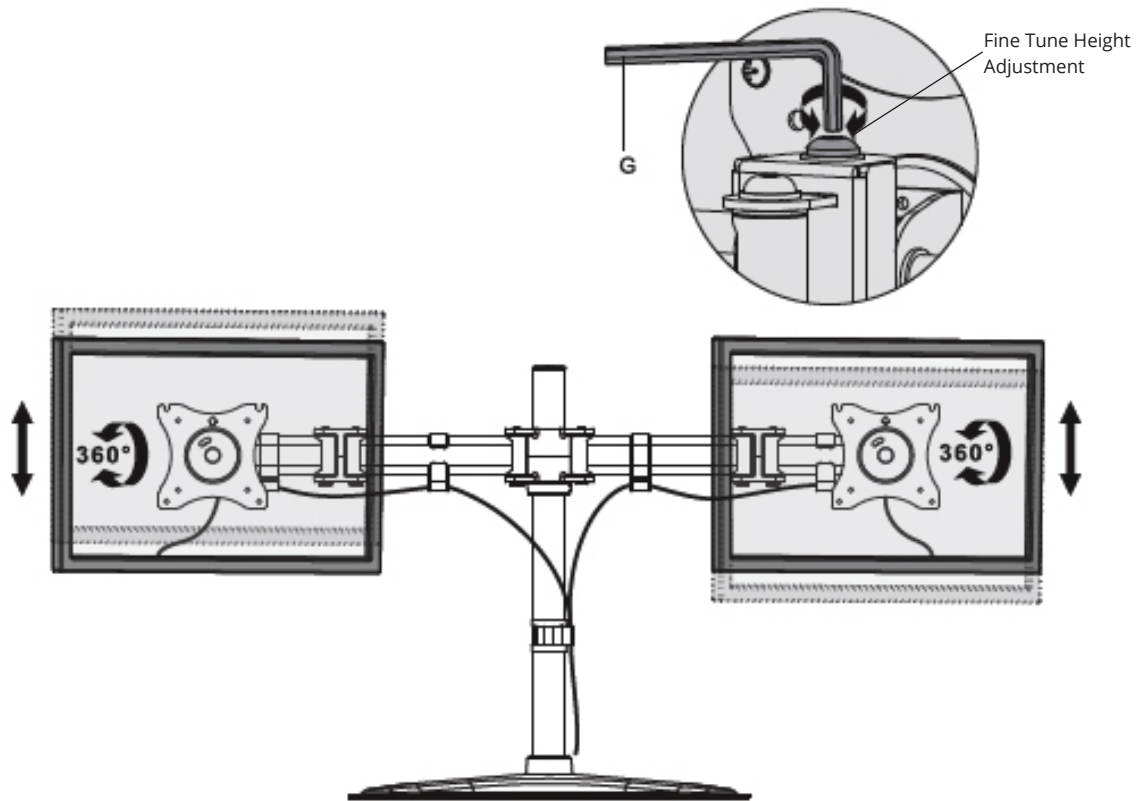

Figure 5B
1. Rotate the displays to the desired position, see **Figure 5B**.
2. Turn the Fine Tune Height Adjustment screw using Allen Key (G) to place the display(s) in the desired position, see **Figure 5B**.
3. Route the cables through the wire clips and down the tube support, see **Figure 5B**.